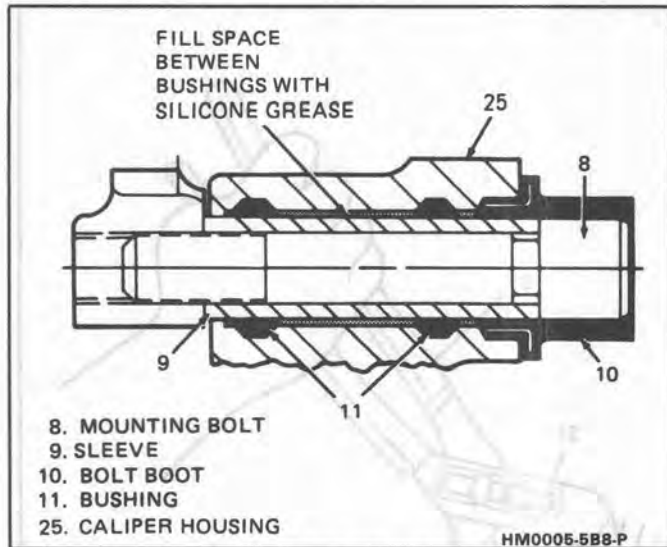

Fig. 5 Lubricating Caliper Cavity
5. Boots (10) (Figure 5).
1. Lubricated new bushings (11) in grooves in mounting bolt holes (Figure 5).